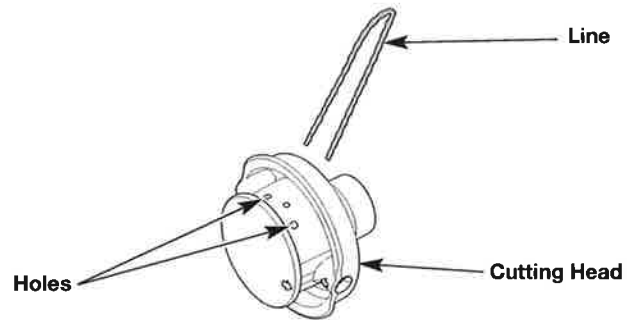
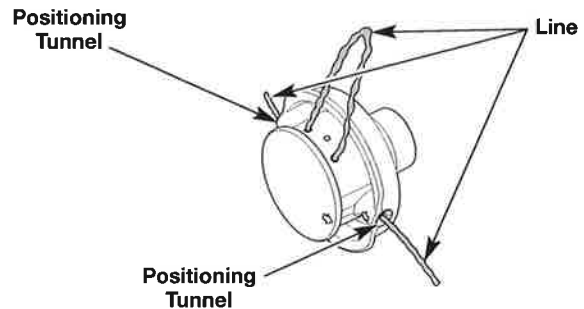

Fig. 14
Fig. 15
3. Insert the ends of the new trimming line into the holes in the cutting head (Fig. 14). Push the line through the holes until both ends protrude from the positioning tunnels (Fig. 15).